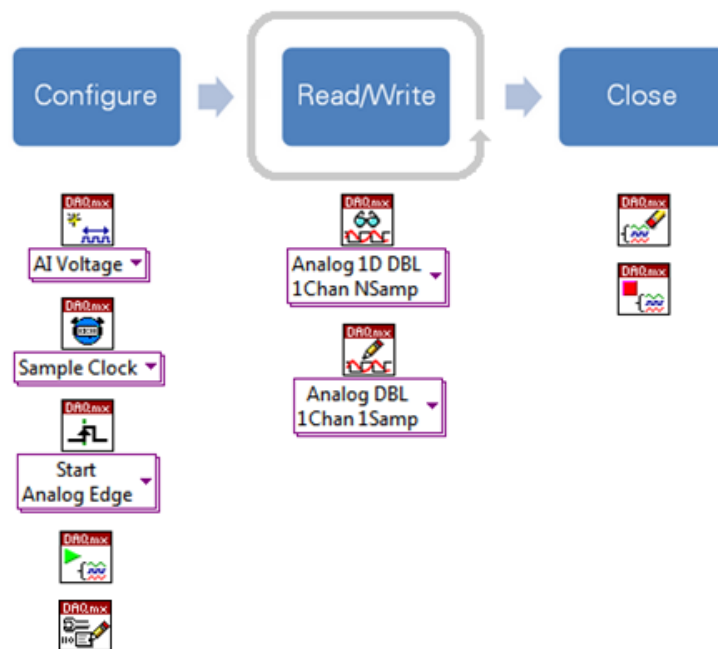

Figure 6. The most common VIs for each section are shown above.
6. Compare the example program block diagram to the VIs shown in Figure 6. If you open other DAQmx example programs, notice that most follow this exact flow.